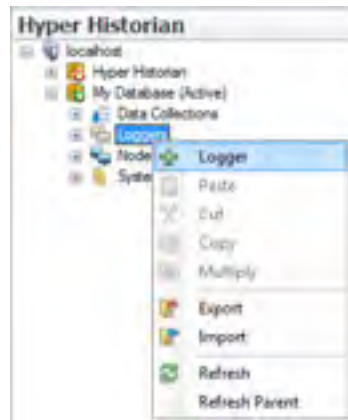

Figure L2.6 - Add New Logger
2. Right-click on **Loggers** and select **Logger**, as shown in Figure L2.6.